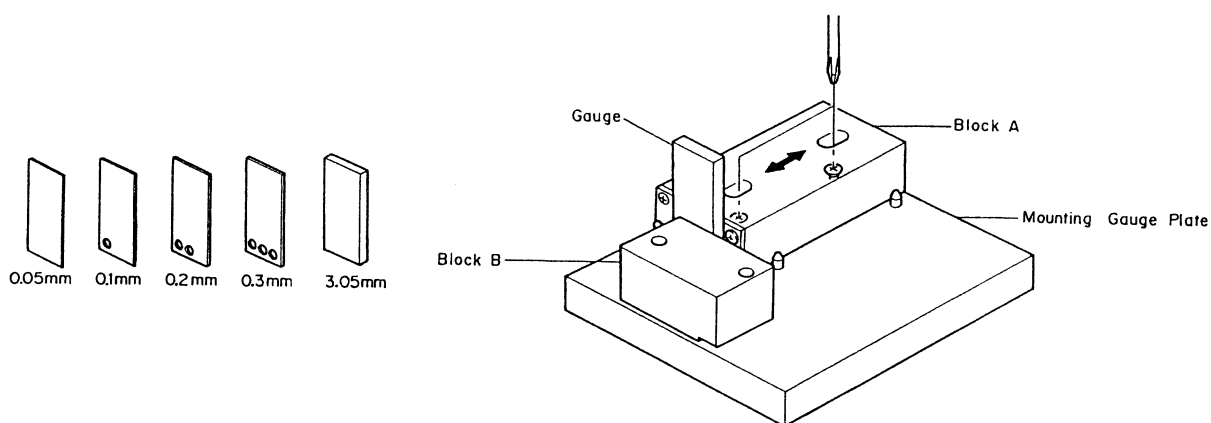
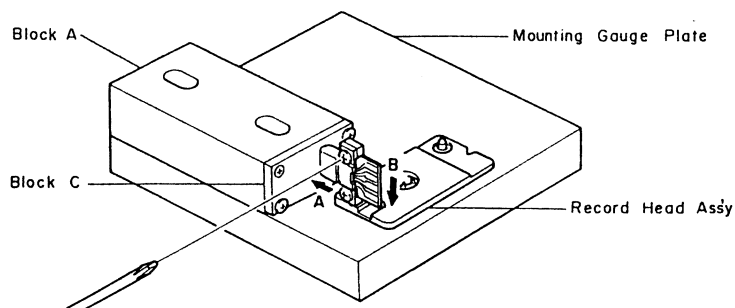

Fig. 4.27
Fig. 4.28
Refer to Figs. 4.27 and 4.28.
- (1) Check the accuracy of the record head stroke.
- (2) Remove Head Mount Base Ass'y referring to item 2.25.
- (3) Remove the record head assembly.
- (4) Adjustment of Record Head Mounting Gauge M-9048 (DA09048A)
- (c) As shown in Fig. 4.27 hold the Gauges (3.05 mm and 0.1 mm thickness) between the Block A and Block B, fix the Block A with screws, pushing the Block A to the 2 guide pins.
- (5) Remove the Block B from the Mounting Gauge Plate.
- (6) As shown in Fig. 4.28, mount the R-8L record head assembly onto the Mounting Gauge Plate, then check the location of the R-8L record head surface. (If record head contacts to the Block C, loosen 2 pcs. of screws that are assembled record head and R-8L record head assembly, then place the R-8L record head assembly onto the Plate.)
- (7) Remove the R-8L record head assembly from the Mounting Gauge Plate.
- (8) Readjustment of Record Head Mounting Gauge M-9048 (DA09048A)
- (c) As shown in Fig. 4.27 hold the Gauges (3.05 mm and either one of 0.05, 0.15, 0.2, 0.25, 0.3 or 0.35 mm thickness) between the Block A and Block B, fix the Block A with screw, pushing the Block A to the 2 guide pins.
- (9) Remove the Block B from the Mounting Gauge Plate.
- (10) Mount the R-8L record head assembly onto the Mounting Gauge Plate.
- (11) As shown in the Fig. 4.28, loosen the R-8L record head with 2 pcs. of screws onto the record head plate. As the location of the Block A is secured by the item (8)-(c), push the record head to the directions A and B, then tighten 2 pcs. of screws.
- (12) Check to insure freedom from gap between the Block C and record head surface, then tighten the 2 pcs. of screws on the record head plate with lock tight paint.
- (13) Assemble the record head assembly to the head mount base assembly.
- (14) Assemble the head mount base assembly to the mechanism assembly.
- (15) Check the record head stroke.